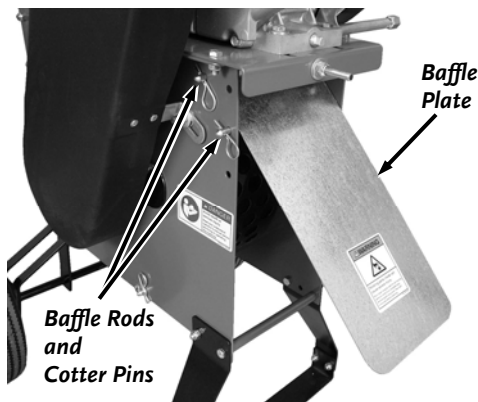

Figure 4
5. Move the bottom of the Baffle Plate to the outside of the Pipe Spacer and reinstall the top portion of the Plate using the Baffle Rod and Cotter Pin (**Figure 4**).